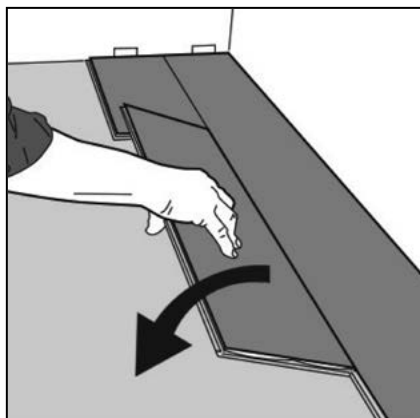

Figure 52 Second plank, second row
- ▶ Gently place the plank close to the short end of the previous one (Fig 52 overleaf) and fold it down in a single action movement ensuring the corner of the long and short sides connect into the corresponding profiles of the short edge of the first plank second row; and the long edge lower profile of the corresponding plank in the previous row respectively.